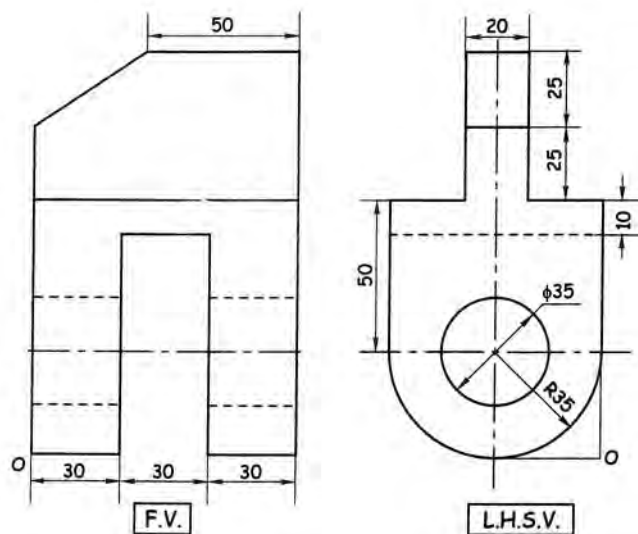

Fig. 6
8. The Figure 6 shows front view and left hand side view of a machine part. Draw its isometric projections by using isometric scale. **20**